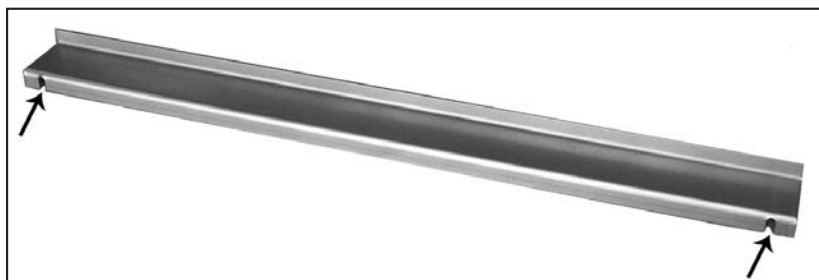

Figure 67: Brick panel bracket, slots shown.
1. Remove the two (2) screws from the rear of the baffle, use a $\frac{1}{4}$ " socket or a flat head screwdriver. Place the provided brick bracket (Figure 67) at the rear of the baffle with the slots over the screw holes (see Figure 67). Insert two (2) of the provided screws into the two (2) holes along the bottom of the baffle.